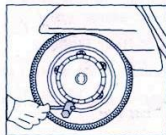

Fig. 37
- 2.2.2 Remove the five nuts that fix the wheel to the wheel hub using the box spanner from the tool kit (Fig. 37). While loosening the nuts, hold the wheel with one hand.